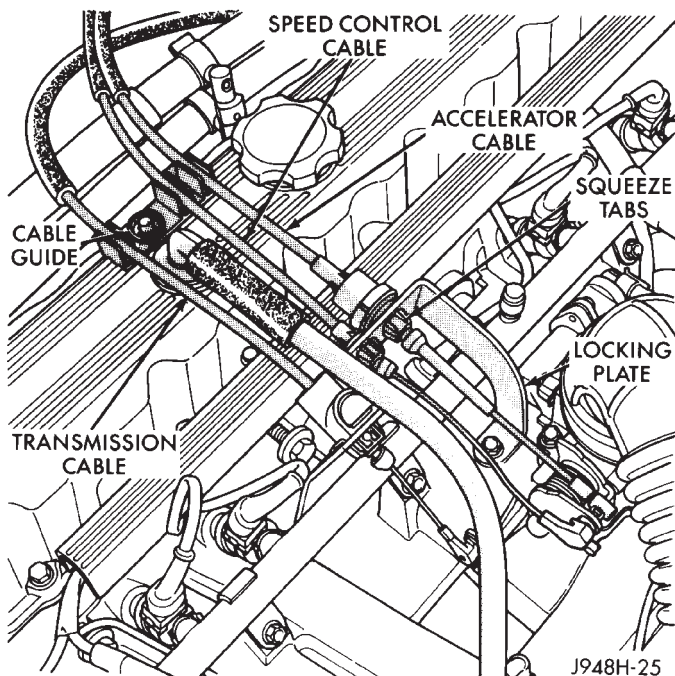

Fig. 7 Cable Guide/Locking Plate—4.0L Engine
- (3) 4.0L Engine: Remove cable from cable guide at top of valve cover (Fig. 7).
- (4) Squeeze 2 tabs on sides of speed control cable at throttle body mounting bracket (locking plate) and push out of bracket.